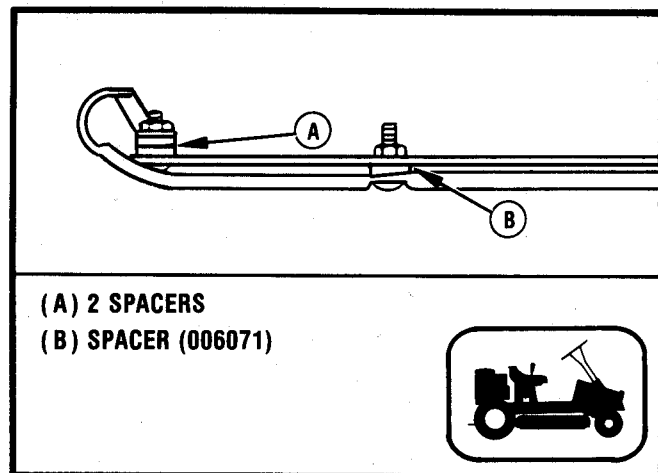

FIGURE 1-18A
- To obtain smoothest cutting in lowest cutting height settings, the runners may be adjusted as shown in Figure 1-18A.